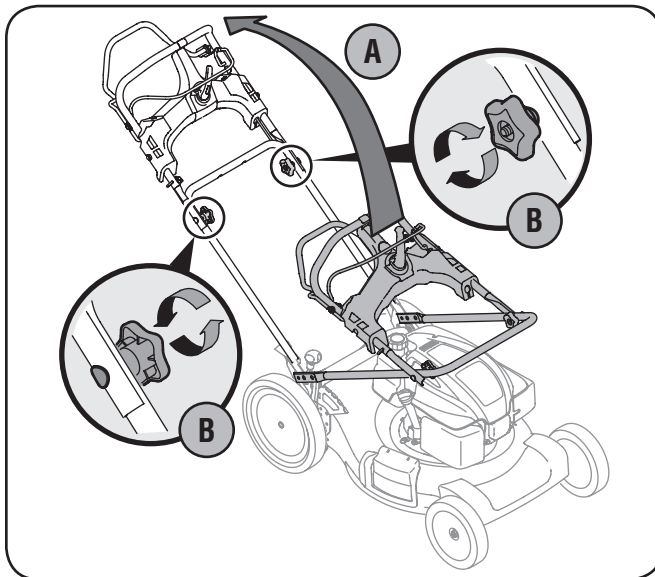

Figure 3-1
- Pull up and back on upper handle as shown in Fig. 3-1. Make certain the lower handle is seated securely into the handle mounting brackets. Do not crimp cables while lifting the handle up.